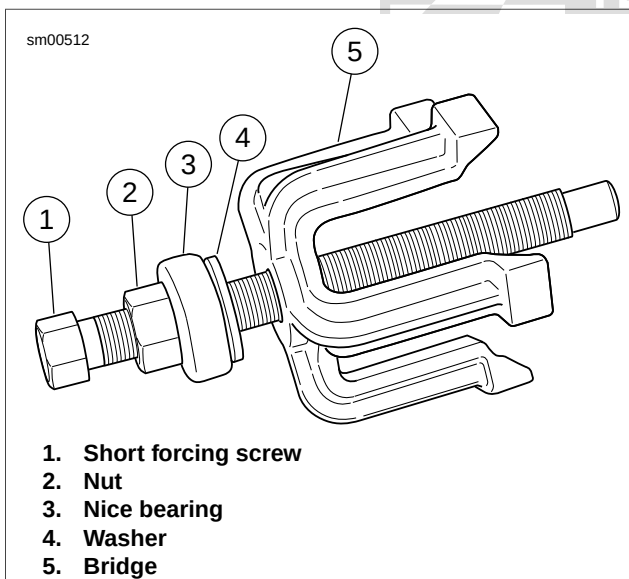

Figure 2-5. Assemble Puller
- 1. See Figure 2-5. Remove wheel bearings using WHEEL BEARING REMOVER/INSTALLER KIT (Part No. B-43993-